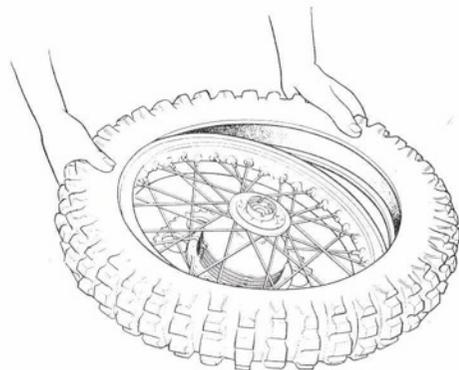
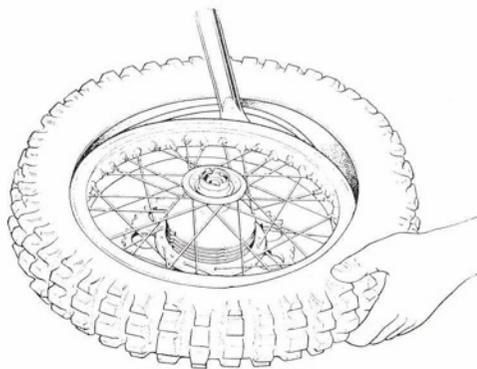

Fig. 57 Fitting the first bead to the tire without the tube.
Fig. 58 Fitting the first bead over the rim.
- 2 Lubricate with soapy water and fit the first bead of the tire to the rim without the tube, (see Fig. 57) starting at the valve hole and working round a little at a time, if necessary using a tire lever for the last few inches (see Fig. 58).